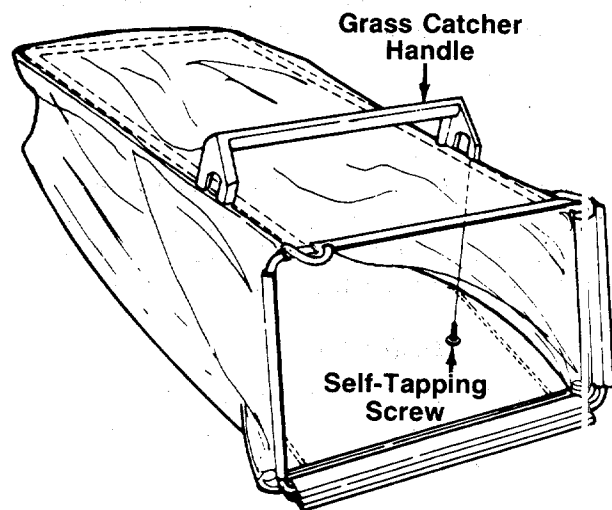

FIGURE 12.
6. Place the grass catcher handle in position on top of the grass bag and frame as shown in figure 12. Secure with four self-tapping screws.